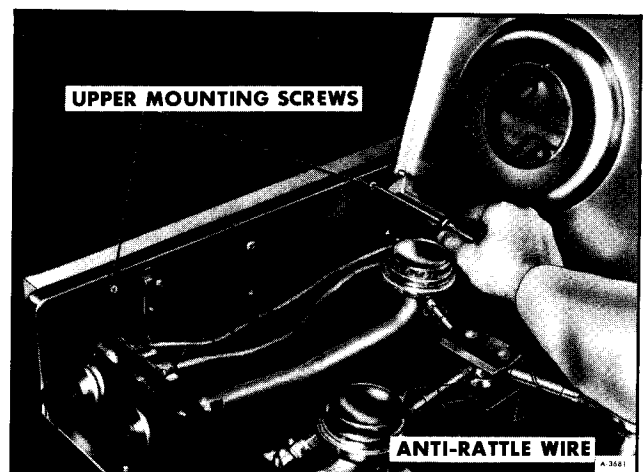

Figure 24—Removing Upper Range/Oven Mounting Screws
5. Remove the upper mounting screws that hold unit to the cabinet top (figure 24).